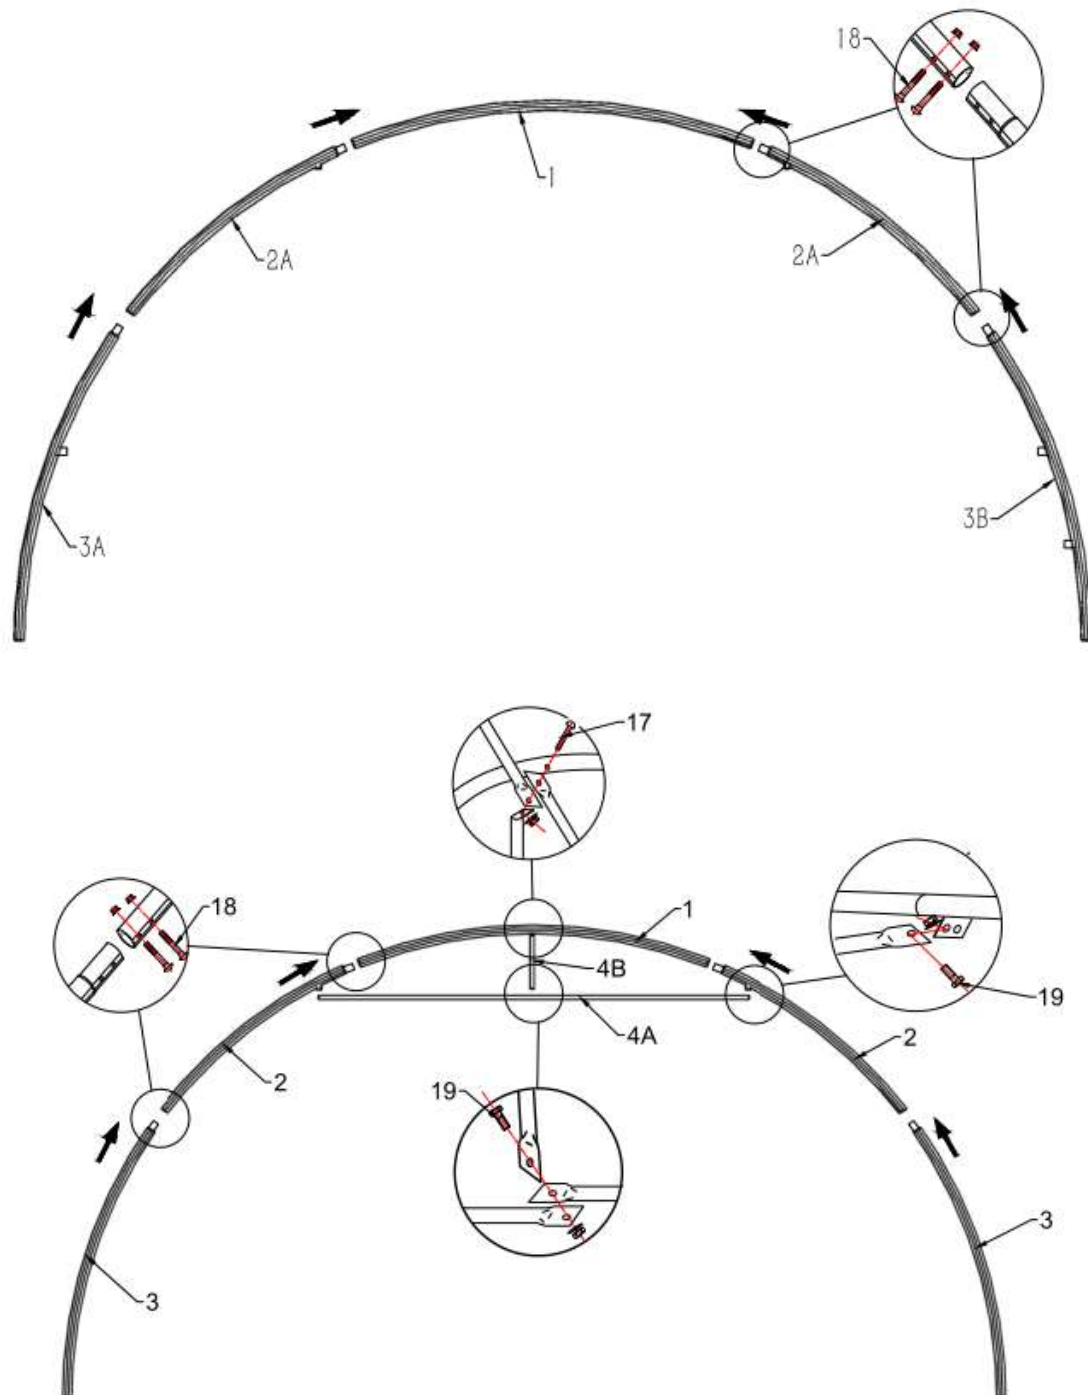

Figure 4
1. As Figure 4 shown to find one Roof Bent Tube (No.1), two pieces of Middle Bent Tubes for doors (No. 2), Lower Bent Tube (No. 3) and assemble every group arch with Screw . DO NOT install the screw on the top of the truss where the fabric will rest.